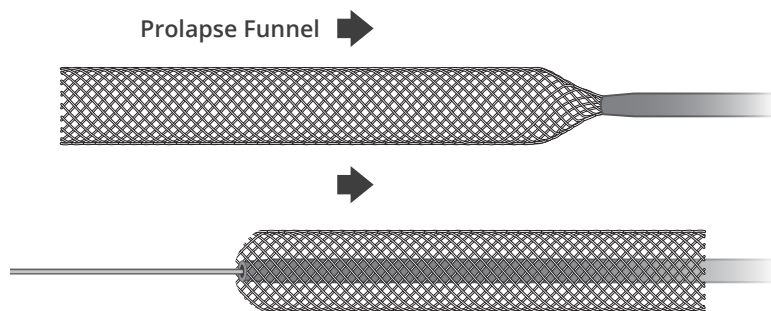

Figure 8
8. Manually prolapse/invert the funnel and back load proximal end of basket wire into the funnel catheter inner lumen (see Figure 8). Confirm that the basket wire has entered the inner lumen and has not interwoven within the funnel braid.